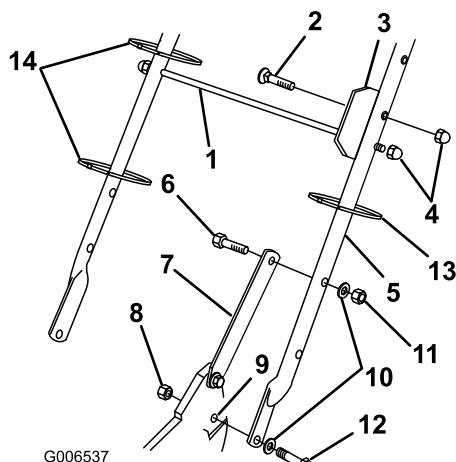

Figure 3
1. Mount the handle to the outside of the mower housing (using the bottom hole) with two bolts (5/16 x 1-1/4 inches), washers, and thin locknuts (5/16 inch) (Figure 3).
2. Secure the handle latches to the handle with 2 bolts (5/16 x 1-1/2 inches), washers, and locknuts (5/16 inch) (Figure 3).
3. Insert the carriage bolt through the bag aligning plate and the second hole from the top on the left side of the handle, and secure it with a cap locknut (Figure 3).
4. Slide the bag support rod through the third from the top mounting holes in the handle, and secure each end with a cap locknut (Figure 3).
5. Use cable ties to secure the control cables to the handle (Figure 3).